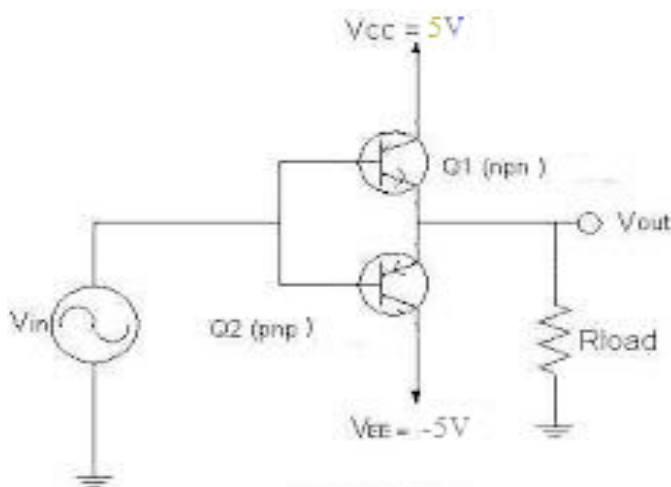

Fig. 6: Class B push-pull Power amplifier (practical circuit)
1. Build the circuit as shown in figure 6.